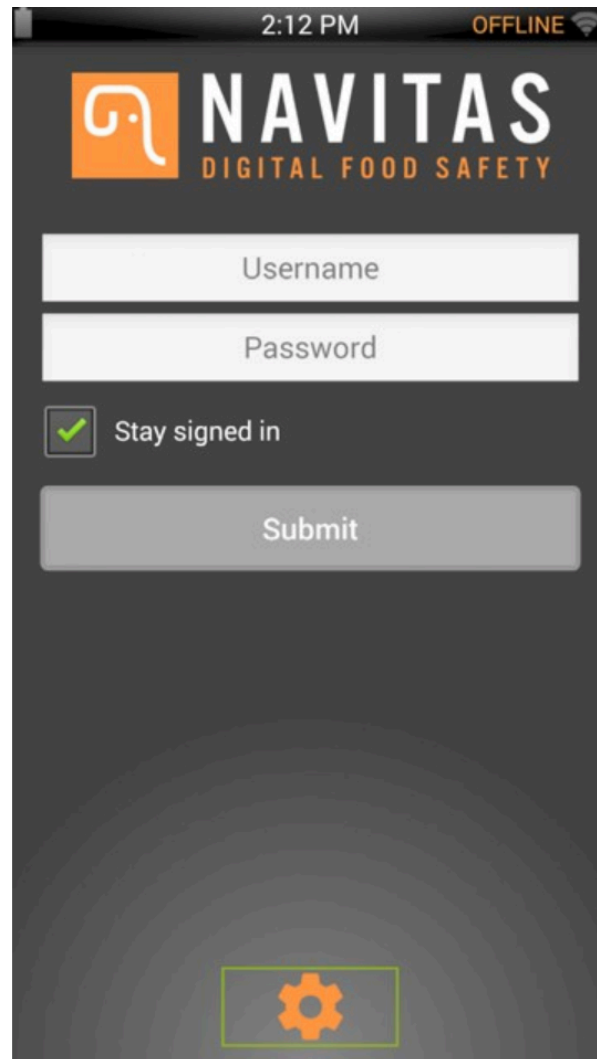

Fig. 6 – Smart Probe main screen.
1. Click on the settings cog on the main screen (See fig. 6).